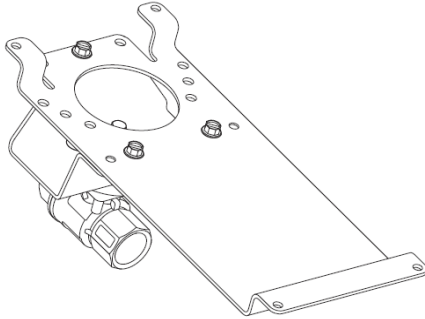
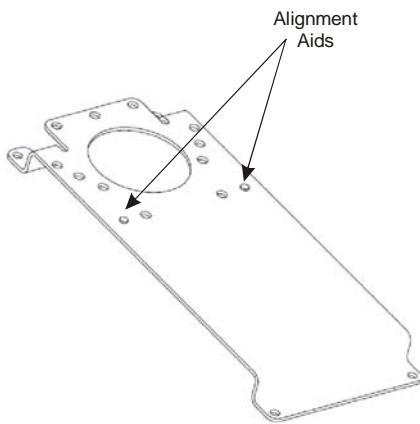

Figure 8: Weather Shield on Mounting Bracket
Figure 9: Raised Alignment Aids
- Secure the weather shield enclosure mounting bracket (Figure 8) to the valve adapter bracket by using the raised alignment aids (Figure 9) for positioning and the three 12-24 x 1/2 in. self tapping screws. Recommended torque is 25 to 28 lb-in. (2.8 to 3.2 N·m).